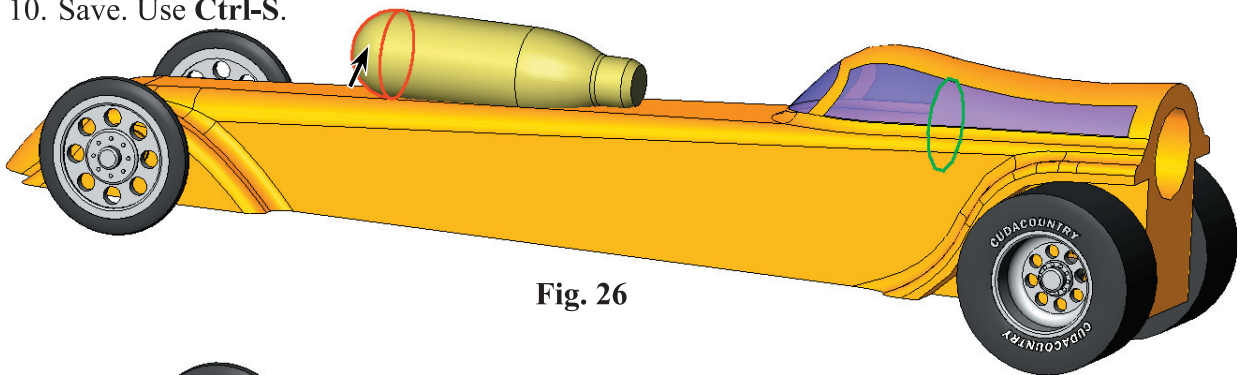

Fig. 26
Step 5. Rotate view to view **bottom of cartridge**, hold down middle mouse button (wheel) and drag to rotate view, Fig. 26.
Step 6. Click **bottom face of the cartridge**, Fig. 26.